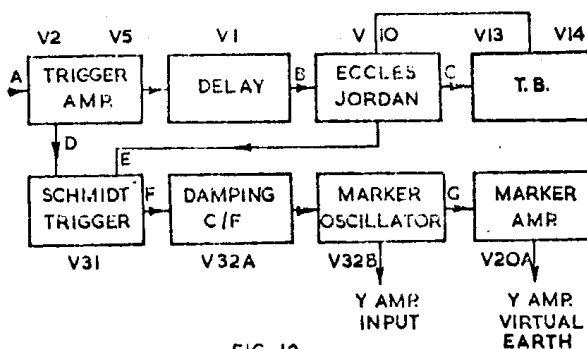
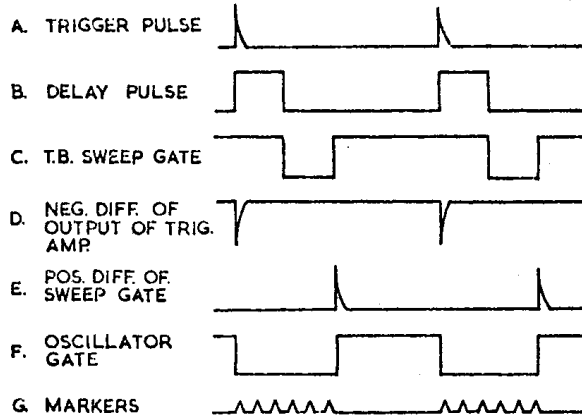

FIG. 10
FIG. 11
5.3. To measure the interval between a phenomena occurring during the time base delay period and a phenomena on the trace, markers must be generated from the occurrence of the trigger phenomena until the end of the time-base sweep. The marker oscillator must be stopped during the time-base flyback, in order to synchronise the markers to the oscilloscope trace. A block diagram of the time-base and marker generator system is given in Fig. 10; the block capital letters refer to the waveforms given in Fig. 11, circuit components are designated in accordance with the CD 518 circuit diagram (Drawing No. DC 518).